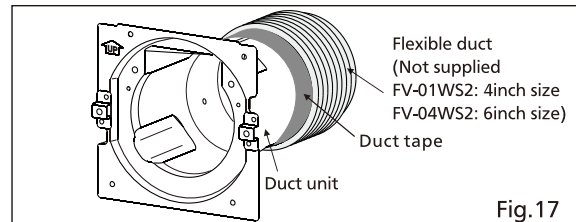

Fig.17
2. Slip duct unit into flexible duct (not supplied) and secure it with duct tape. (Fig.17)